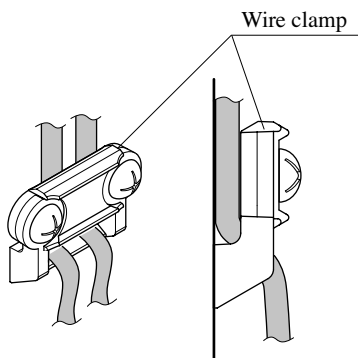

Figure1
- 2 Make wires go through the hole of the wire clamp and secure it with screws. (See the Figure 1.)